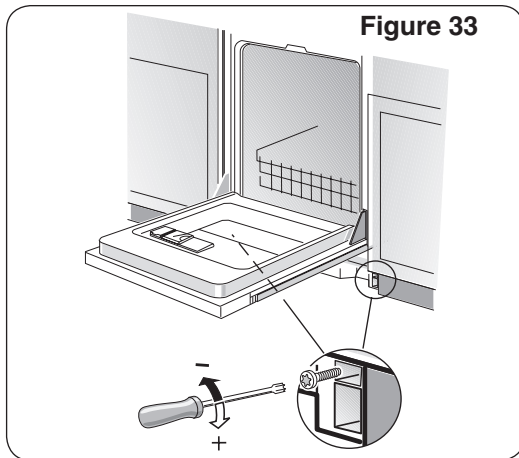

Figure 33
- 2 Insert the screws as shown in **Figure 33**. Turning the screw clockwise increases the spring tension.